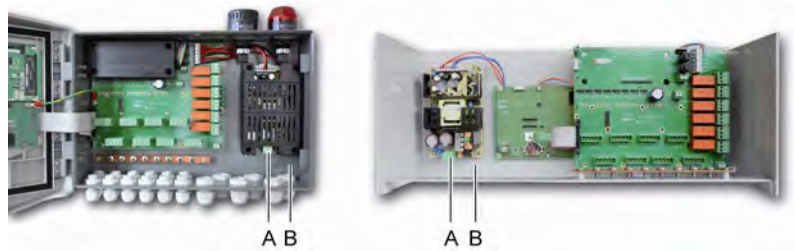

Figure 26: Connection of sector power in wall mounted and rack versions.
The sector power shall be connected to the terminal block as indicated in Figure 26. The ground conductor shall be connected to the ground terminal (B).
The MX43 can be powered from a 22 to 28 V AC source at 50/3.2 A, 1.5 A max. In this case, connect the 24VDC source to the corresponding terminal jack (Figure 26, A) respecting polarities. This jack is protected by Fuse F1.
(Figure 26. Grounding at site. Moreover, the cable braids of the digital lines shall also be connected to this ground rod. (